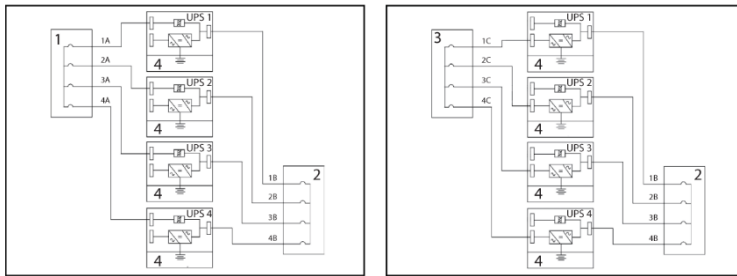

Figure 27. Parallel UPS system connections
2. For installing the parallel system, see Figure 27.
Total length:  $1A + 1B = 2A + 2B = 3A + 3B = 4A + 4B$  (see Figure 27)